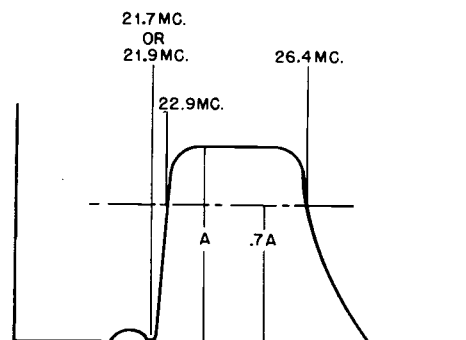

FIGURE 7. VIDEO IF RESPONSE WAVEFORM
The video IF amplifier response curve is shown in Figure 7. The bandwidth at the 3 db points should be approximately 3.5 mc. To check this with an AM generator, note the signal strength in microvolts necessary to produce an increase of approximately 1 volt above contact potential at 24.5 mc. Increase the generator input by 1.4 times and shift the generator frequency both sides of 24.5 mc until the original detector voltage reading is again obtained. These two new frequencies thus obtained are the 3 db skirt frequencies and should be approximately 22.9 mc and 26.4 mc. This measurement should be made with the -3 volt mixer bias and a -5 volt contrast bias.
9. Compare the curve with the ideal curve in Figure 7, using the marker to locate specific frequencies on the wave. If it is necessary to alter the shape of the curve, readjust the core closest in frequency to the point requiring correction.